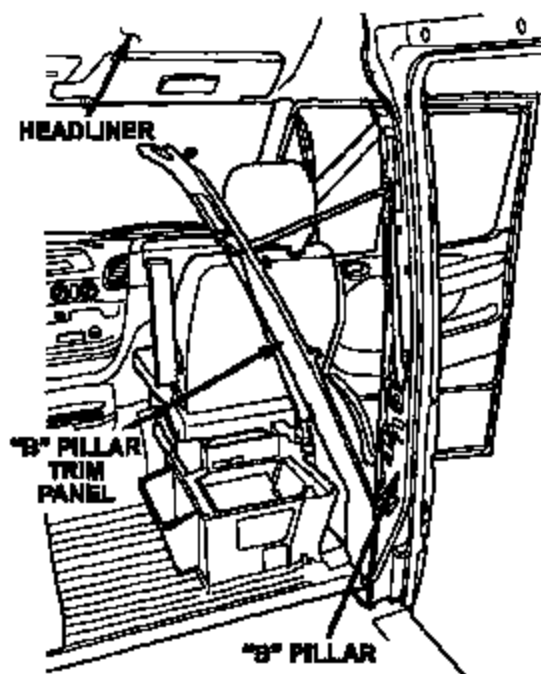

Figure 3 – Passenger Side Shown
4. Detach the B-pillar trim panel from the B-pillar on the driver and passenger sides of the vehicle (Figure 3).
NOTE: The seatbelt assembly does not require removal. Detach B-pillar trim panel and allow it to hang loosely in the seatbelt (Figure 3).
13. Install the right and left side B-pillar trim panels (Figure 3).